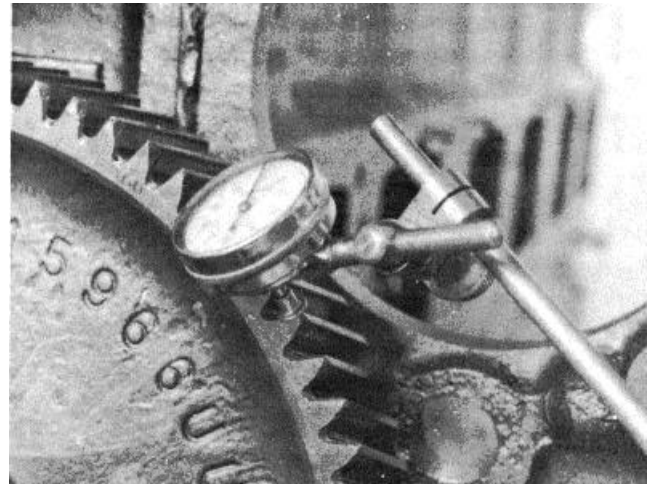

*Fig. 14-20 (N114253). Install The Thrust Ring Onto The Camshaft.*
2. Apply a coat of lubriplate to both sides of the thrust ring. Install the thrust ring onto the camshaft. Make sure that the oil grooves on the thrust ring are toward the camshaft gear, Fig. 14-20.